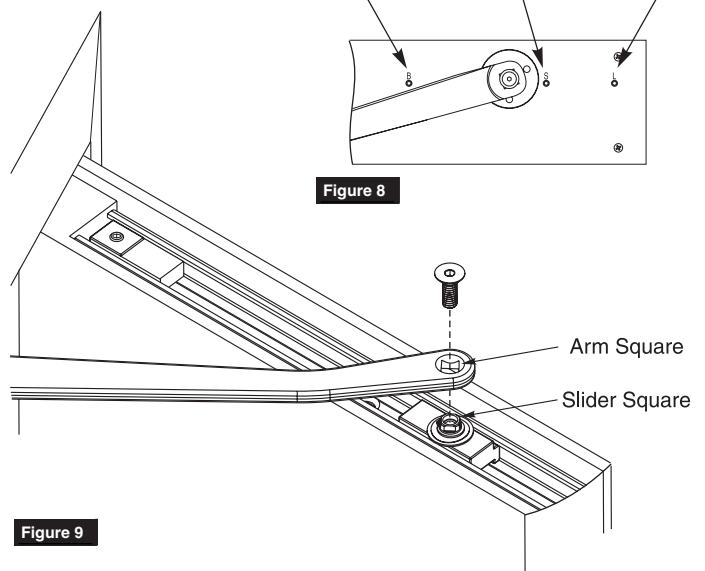

Figure 9
3. Align slider square with arm square and connect using provided 5/32" hex wrench and 1/4-20 x 3/4" Allen Drive with Patch screw and washer. (Figure 9)